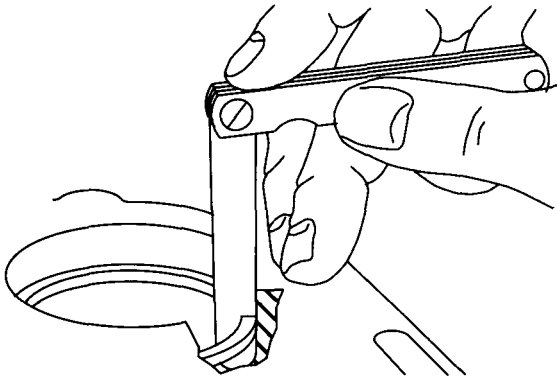

Fig. 4 - Checking Ring End Gap
2. Check ring end gap, Fig. 4.